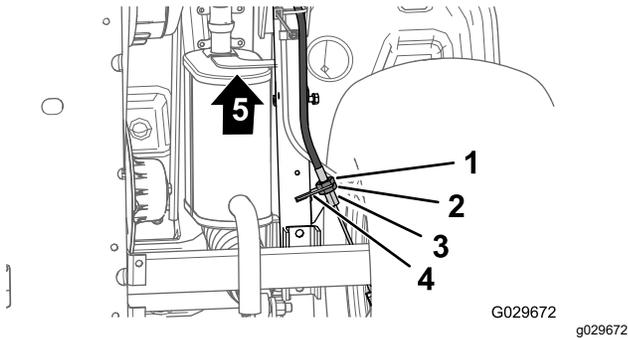

Figure 67
3. At the bottom of the machine, loosen the rear jam nut for the threaded adjuster of the parking-brake cable 4 turns (Figure 67).
4. Tighten the forward jam nut (Figure 67).
- A. Loosen the forward jam nut (Figure 67) for the threaded adjuster of the parking-brake cable 1 turn.
- B. Tighten the rear jam nut (Figure 67).
- A. Loosen the rear jam nut (Figure 67) for the threaded adjuster of the parking-brake cable 1 turn.
- B. Tighten the forward jam nut (Figure 67).